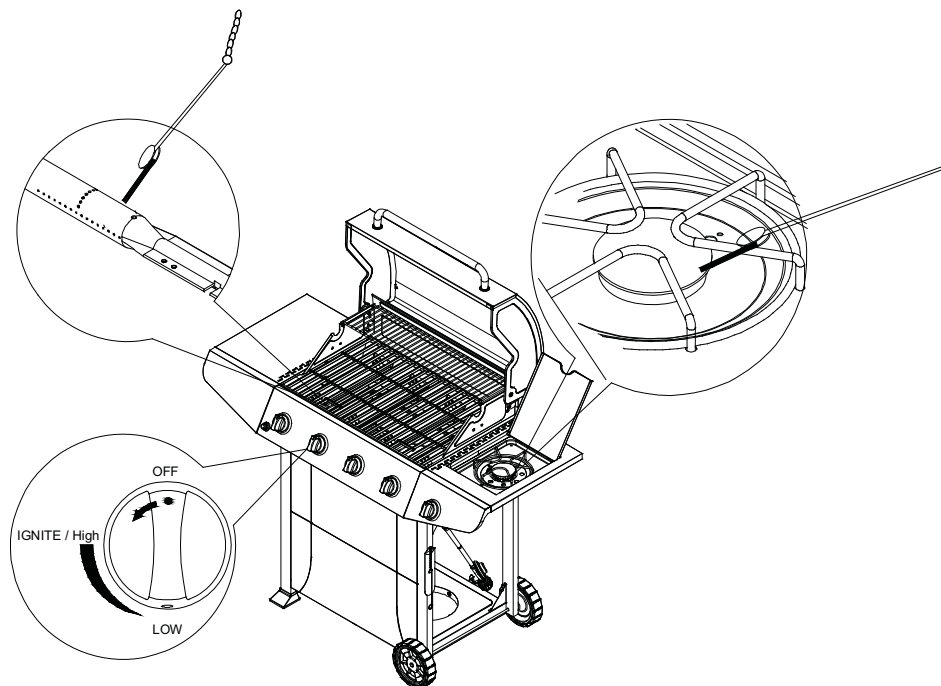

Fig. 26 Match/Paper Lighting Illustration
4. Attach either the match or paper to the clip (Fig. 26), light the match and insert it close to the ports of the burner, and push and turn the depressed knob to the left to “HIGH” position.